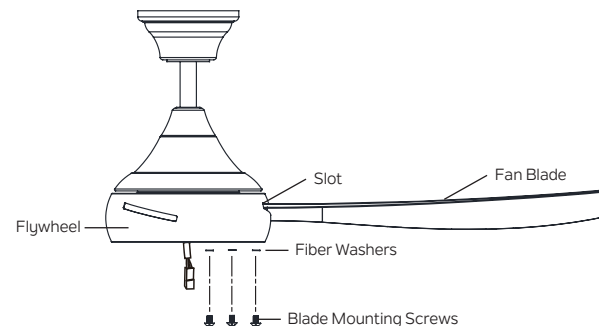

Fig. 18
Step 1. Insert fan blade through a slot in the flywheel. (Fig. 18)
Step 2. Repeat for the remaining fan blades. (Fig. 18)